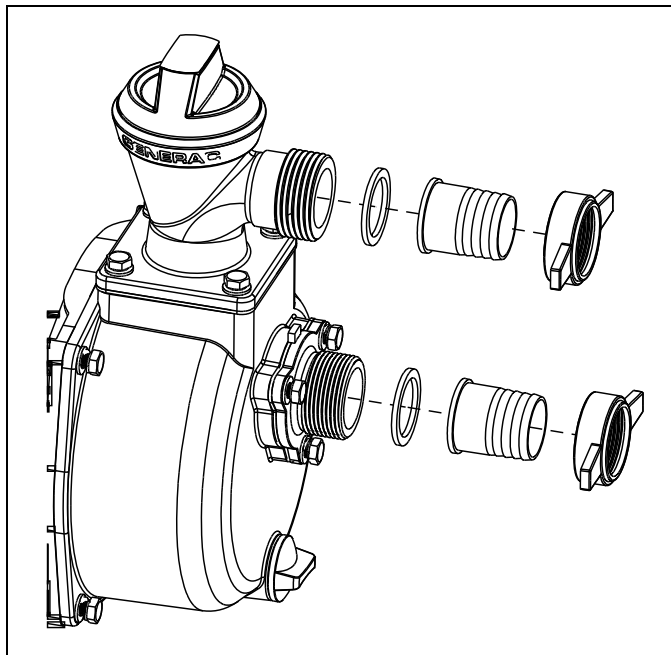

Figure 4-6. Attach Gasket and Hose Barb
1. Attach and thread a gasket and hose barb to each of the threaded flanges using a hose nut (Figure 4-6).